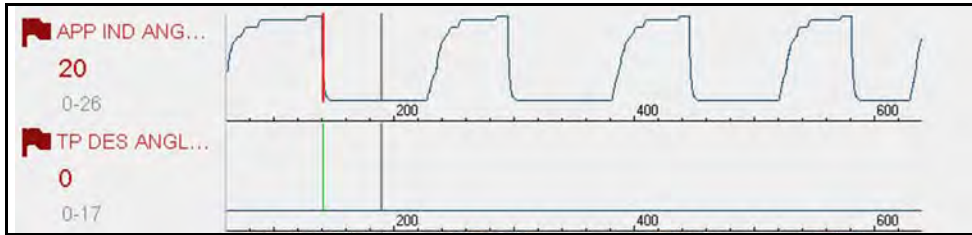

Figure 7-9 Triggers activated
- A red cursor line is displayed on the graph (Figure 7-9) of the PID with the activated trigger to indicate where the trigger occurred.